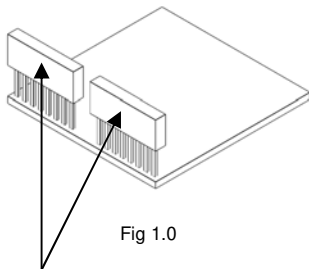

Fig 1.0
- ❑ Mount both IC's on the PCB, the metal back pointed towards the PCB's edge. Take care to use the entire length of the connectors, this avoids making it necessary to shorten the connectors (fig. 1.0).